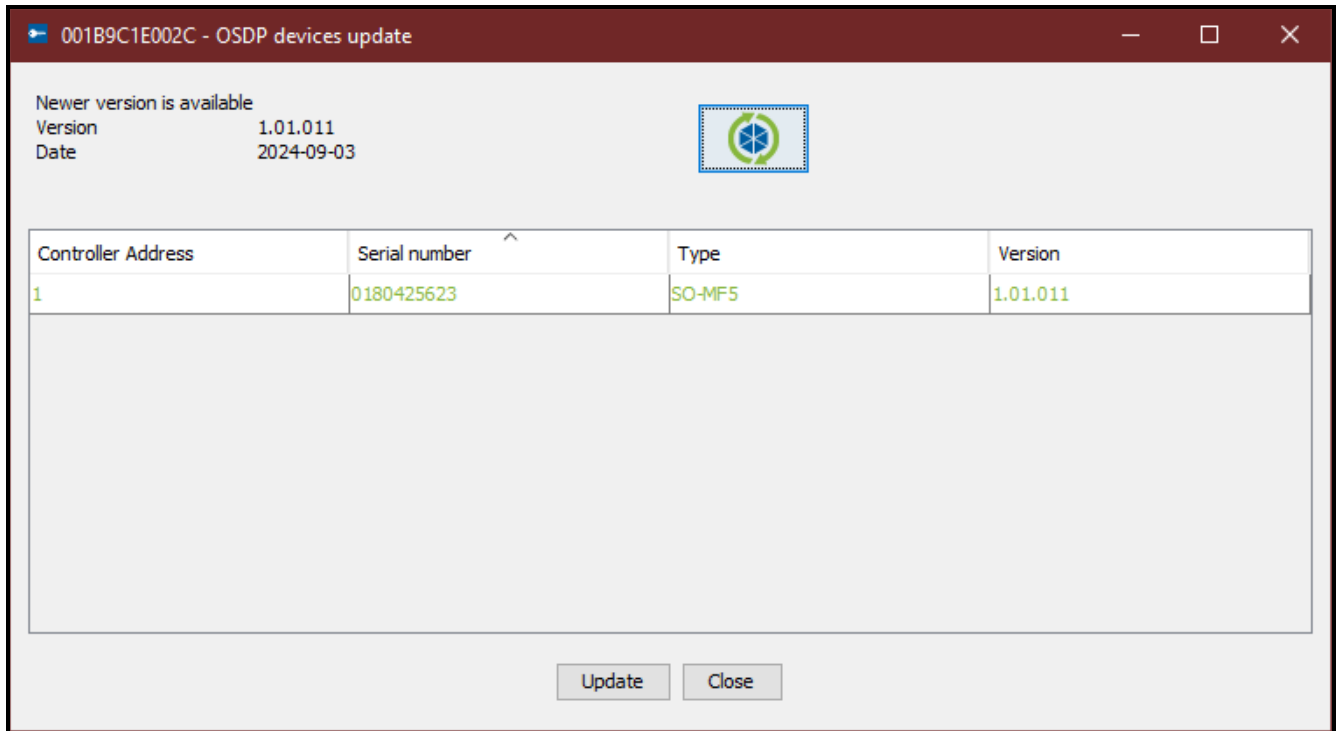

Fig. 29. OSDP device firmware update window.
3. A window will be displayed with the available firmware version and a table with OSDP device data (see: Fig. 29).